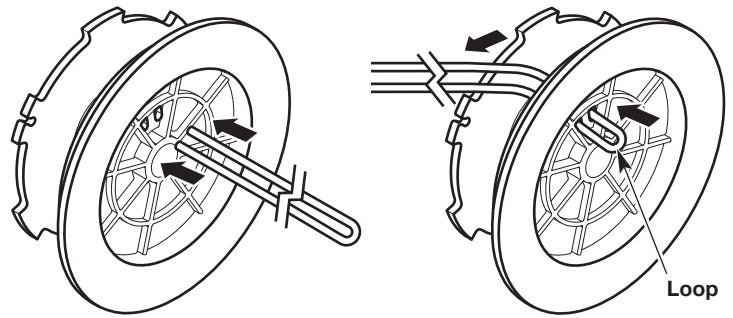

Fig. 29
2. Insert the two line ends through the two holes in the inner reel (Fig. 29). Pull the line through the inner reel so that the loop is as small as possible (Fig. 29). Make sure the line ends are of equal length.